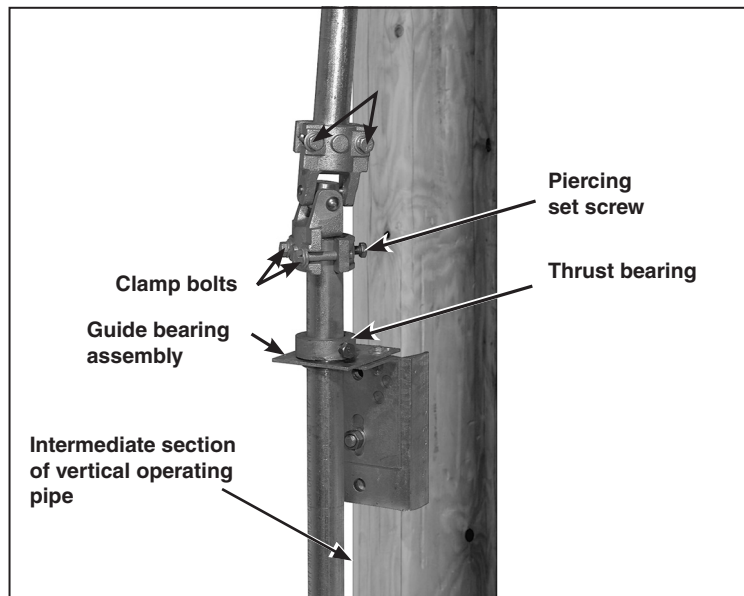

Figure 21. Install the intermediate section of the vertical operating pipe.
STEP 16. Pass the next section of vertical operating pipe up through the guide bearing and then through the thrust bearing. The thrust bearing will rest on the guide bearing and support the operating pipe. See Figure 21.